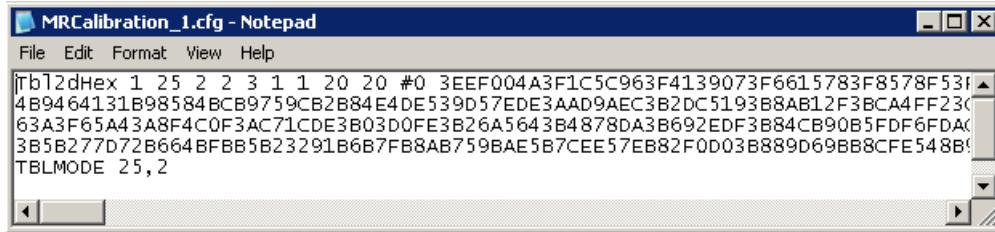

Figure 8: New MR Calibrated configuration file with 2D table
1. Open the new MR calibrated *.cfg file located under <\\QdPpms\Tools>. (Figure 8)